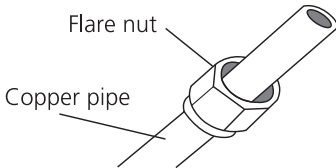

FIG. 5.3
- Place flare nuts on both ends of pipe. Make sure they are facing in the right direction, because you can't put them on or change their direction after flaring. See FIG. 5.3.